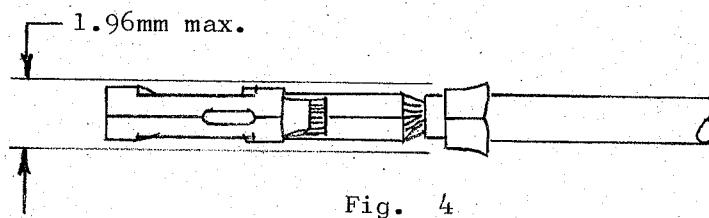

Fig. 4
- (2) After crimping, bend deformation sidewise of contact to the contact axis, shall be within the limit as specified in Fig. 4.